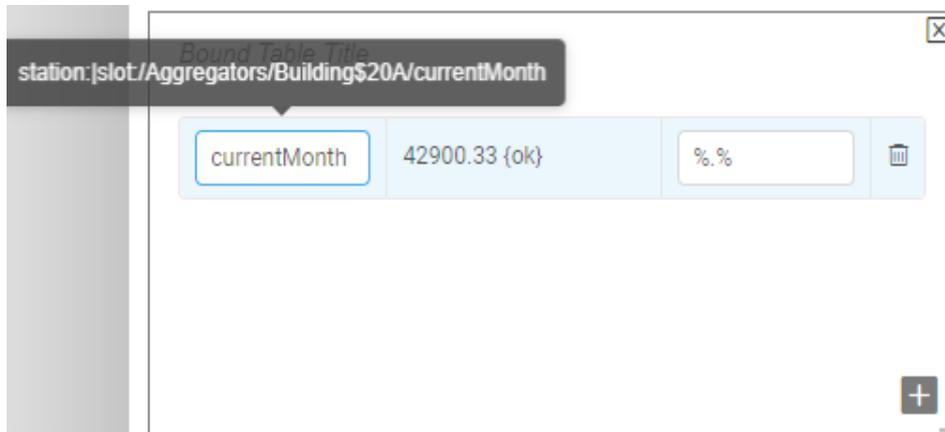

Figure 101 - BOUND LABEL AND VALUE IN THE EDITOR MODE
- Once Enter key is pressed then a row containing 3 columns is displayed (Figure 101). These are: the label, value and format. When hovering on the label then entire slot path is shown in a tooltip.